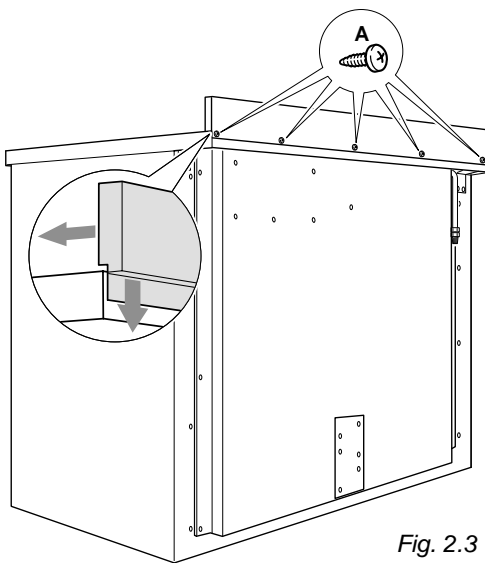

Fig. 2.3
- Assemble the backguard as shown in figure 2.3 and fix it by the 5 screws “A”.